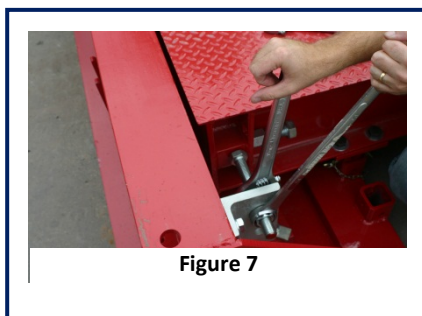

Figure 7
6. Verify that the side checking bolts are tight against the sides of the scale to prevent movement. Be sure the end checking is tight against the end of the bulkhead. Both side and lateral checking must be tight against the scale to prevent movement. See Figures 7 and 8.